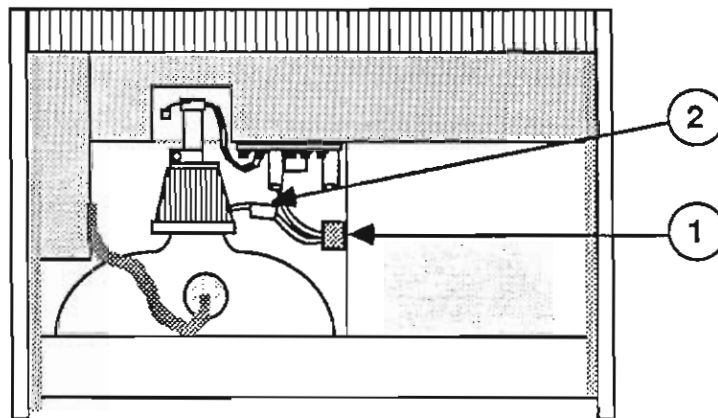

FIGURE 8
2. Locate the screen kit transformer (Figure 8, #1). It is attached to the wall of the video chamber with adhesive tape.
3. Disconnect the connector (Figure 8, #2) located between the screen kit transformer and the CRT yoke.
5. Carefully peel the screen kit transformer (Figure 8, #1) off the wall of the video chamber.